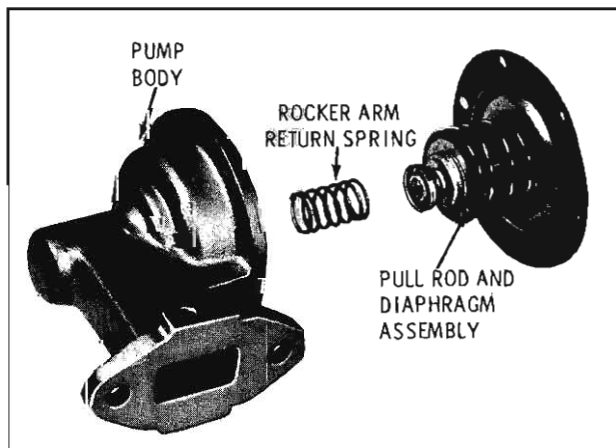

Fig. 3-483 Fuel Pump - Exploded View
2. Install the rocker arm spring in the pump body making sure that the spring is properly seated in the pull rod end of the diaphragm assembly. (Fig. 3-483)